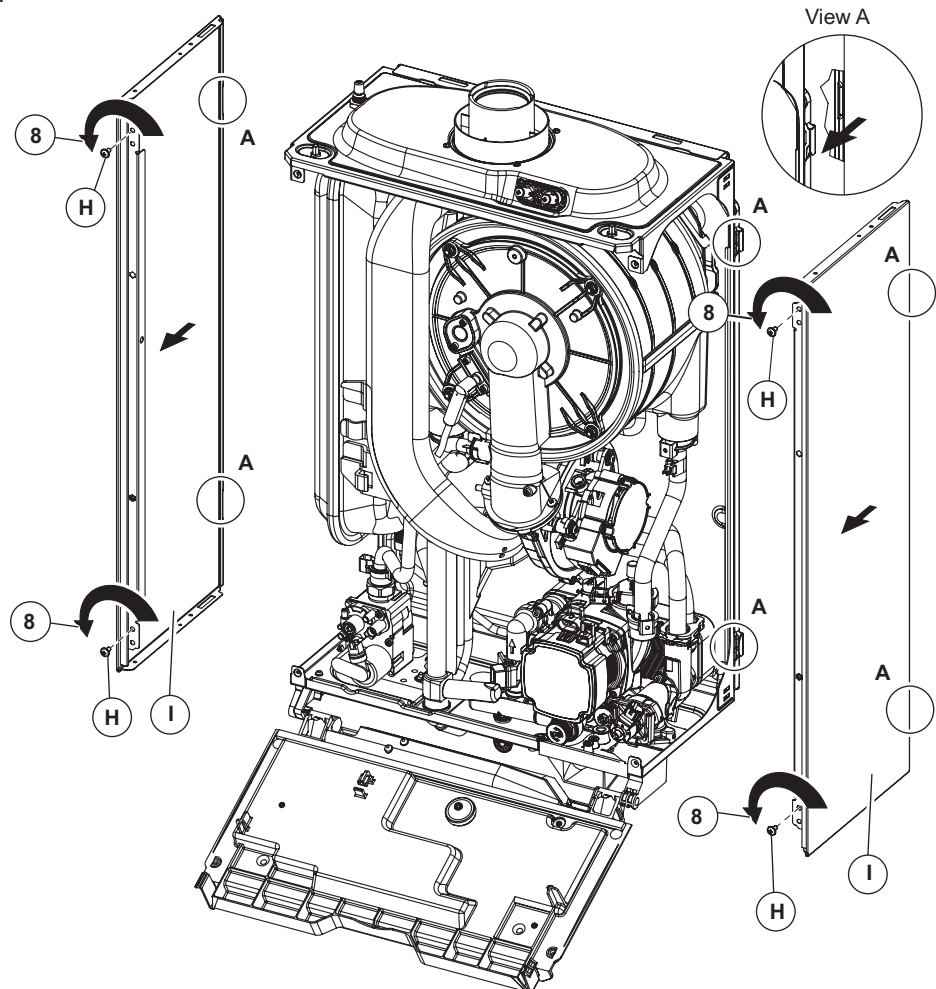

Fig. 6.4
### Side panels - Fig. 6.4
8. Remove the screws 'H' securing the side panel 'I'. Lift the side panel and pull it forwards unhooking it from the rear panel (view 'A' in Fig. 6.4) Lower the panel out and away from the top cover.